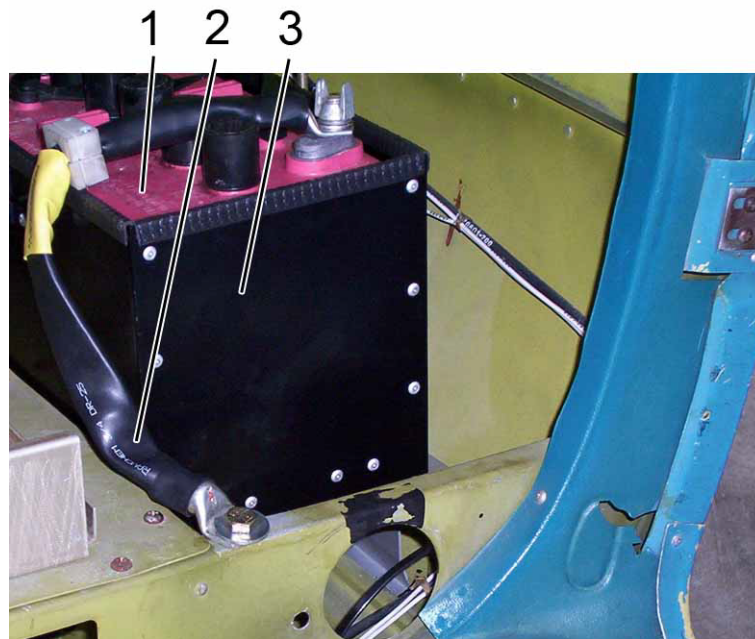

Fig. 24-1a Main Battery
- (1) Remove the bottom of the extended baggage area. Refer to the airplane manufacturer's specifications.
- (2) Remove the cover from the battery box.
- (3) Disconnect the negative cable from the main battery. See Fig. 24-1a.
- (4) Disconnect the positive cable from the main battery.
- (5) Remove the main battery from the airplane.